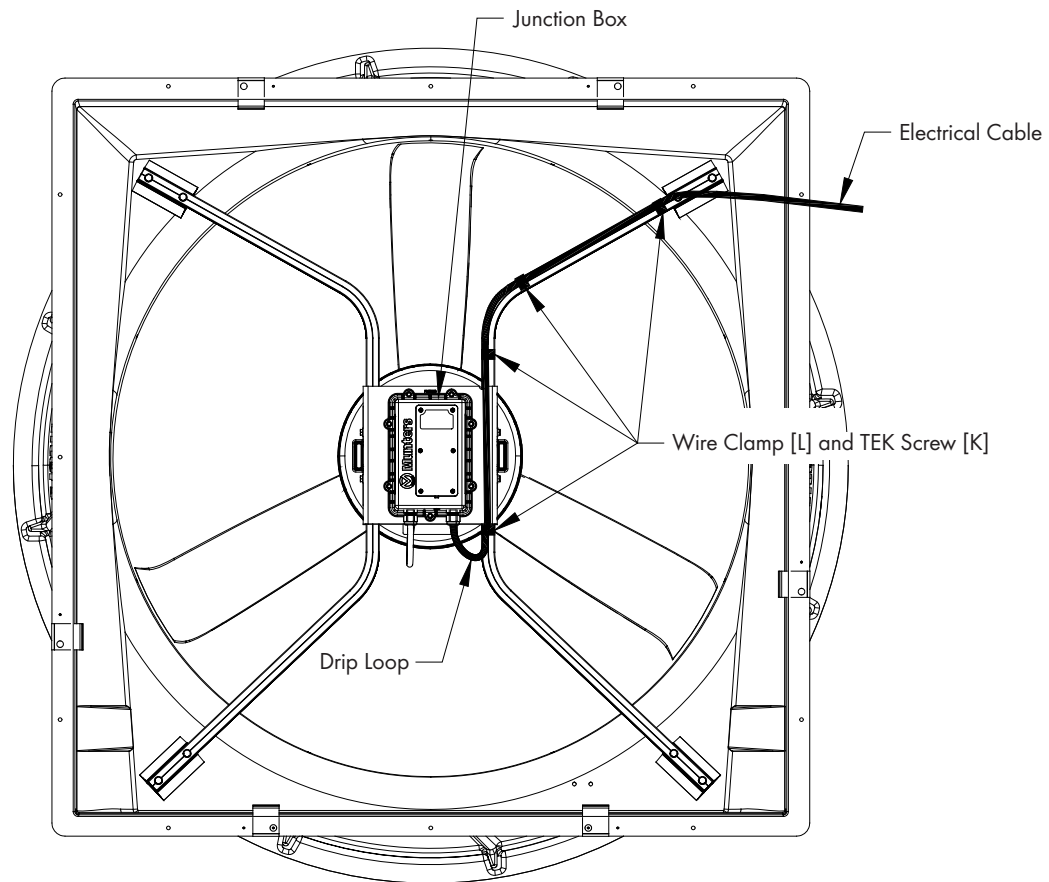

Figure 13A
The Munters Drive Retrofit Kit comes with a coil of electrical cable that is pre-wired to motor. Determine where the existing power for the fan entered the housing and route the cable up the left or right strut toward the existing power. Create a drip loop in the bottom of the cable and then fasten it to the strut using (4) Wire Clamps [L] and TEK Screws [K]. Attach the new cable to the existing power supply for the fan. See Figure 13A & 13B. Continue on next page.